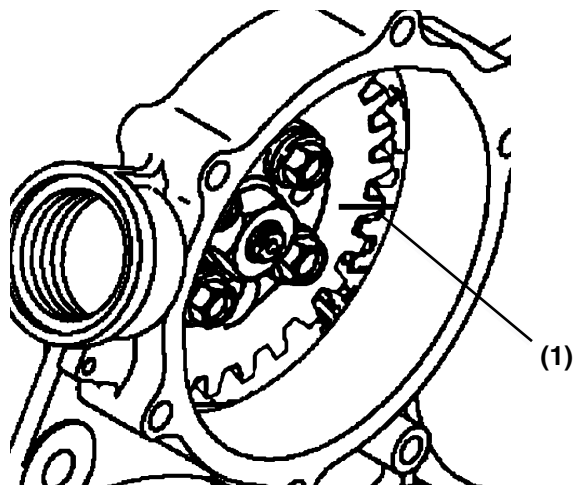

Figure 7-11
- On TNV94 - 106 model engines, the idler gear is visible. Make a reference mark (**Figure 7-11, (1)**) across both the fuel injection pump drive gear and the idler gear.